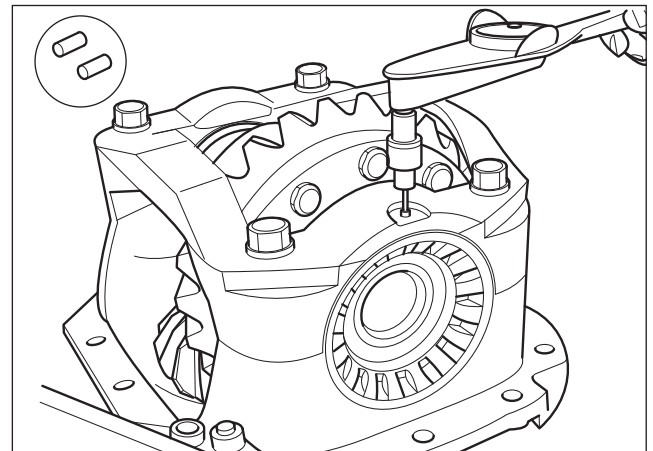

Fig. 2.4
4. Remove two set screws, discard screws and replace with new for rebuild. (Fig. 2.4)